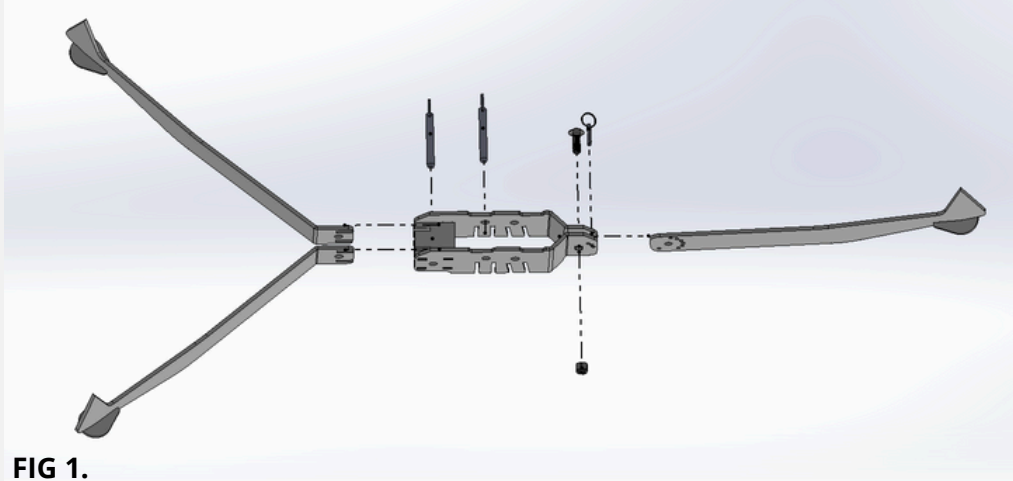

FIG 1.
2. Insert the 3 Legs into the Base, then insert 1/2" x 3" quick pin into the hole on mounting base to secure the back two feet, as Shown in Fig. 1
5. Insert 1/4" x 1" quick pin to secure leg from rotating, as Shown in Fig. 1